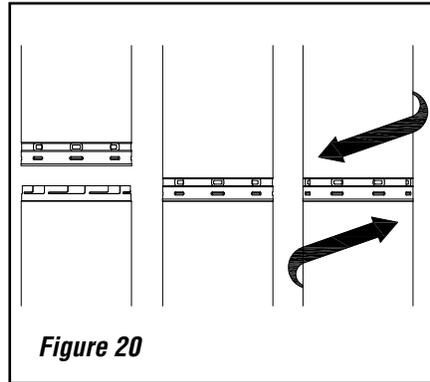

Figure 20
8" DV Lock (8DVL) direct-vent system components are unitized concentric pipe components featuring positive twist lock connections (**see Figure 20**).
Push the pipe sections completely together, then twist lock one section clockwise approximately one-quarter turn until the two sections are fully locked (**see Figure 20**). Indentations on the female end of black painted pipe and fittings will not be visible unless by examining the inside of the female ends.
Push the vent component against the previous section until it fully engages, then twist the component clockwise, running the dimples down and along the incline channels until they seat at the end of the channels. **This seating position is indicated by the alignment of the arrow and dimple as shown in Figure 20.**
At any transition to or from a horizontal/inclined run, install the 8DVLE45 and 8DVLE90 elbows in the same manner as the straight vent sections. Fully engage the inner and outer unitized pipes at the bottom of the elbow. Rotate the elbow in the desired direction. **NOTE:** Three (3) holes are provided at the bottom of the elbows. Secure the elbow in place with a minimum of two (2) self tapping screws. The top of the elbow will connect to straight lengths of 8" DV Lock pipe by twist-locking the pieces together. (see *Figures 20 and 22*).
8" DV Lock pipe applications are shown in the illustrations. **8" DV Lock** direct-vent system components are unitized concentric pipe components featuring positive twist-lock connection (see **Figure 20 on Page 21**). The appliances covered in this document are fitted with collars having locking inclined channels. The dimpled end of the vent components fit over the appliance collar to create the positive twist-lock connection.
To attach a vent component to the appliance collar, align the dimpled end over the collar, adjusting the radial alignment until the four locking dimples are aligned with the inlets of the four incline channels on the collar (see **Figure 20 on Page 21**).